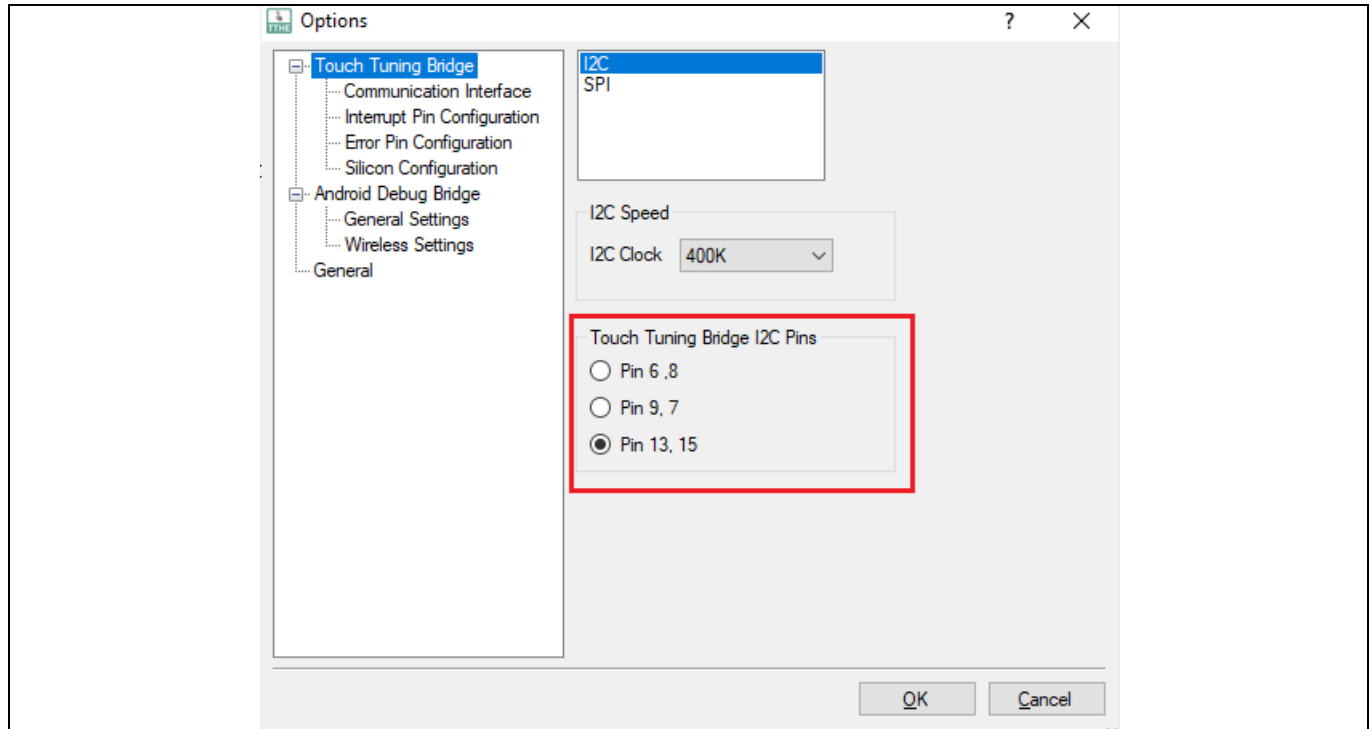

Figure 10 Options window in TTHE
- Select the **Communication Interface** tab on the left. Select **I2C**, as shown in Figure 10, and make sure that the I2C Clock is selected to **400K** and the I2C pins are set to the option **Pin 6, 8**. Click **OK**. This step ensures that the I2C pins on the isolation bridge are routed correctly to the I2C pins on the CYAT8168X EVK.